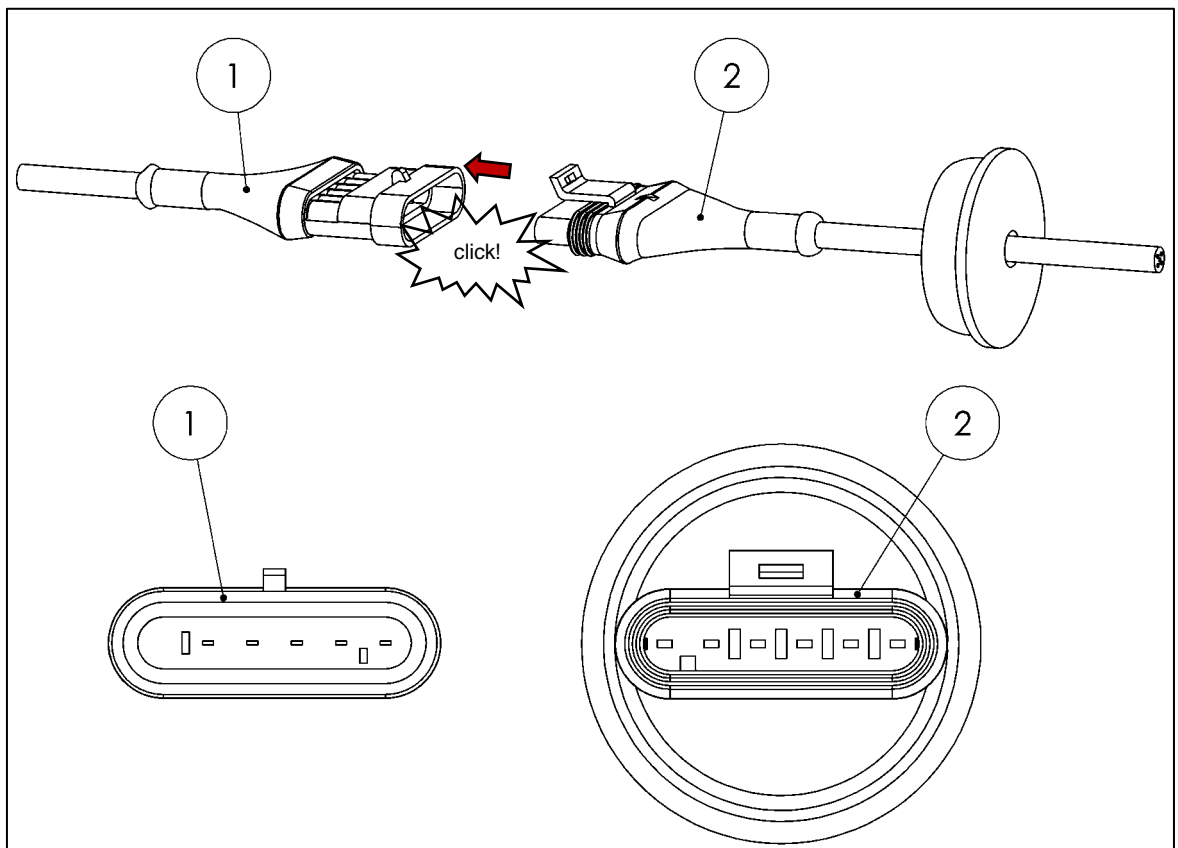

Fig. 62
➤ Connect the platform cable connector (1) to the control unit connector (2) (see Fig. 62)